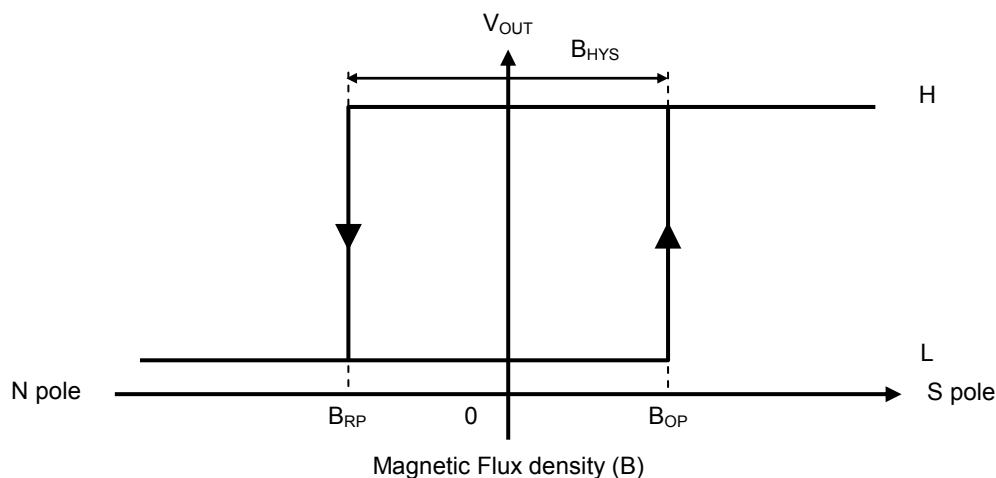

**Figure 12**
**Figure 12** shows the relationship between the magnetic flux density and  $V_{OUT}$ .